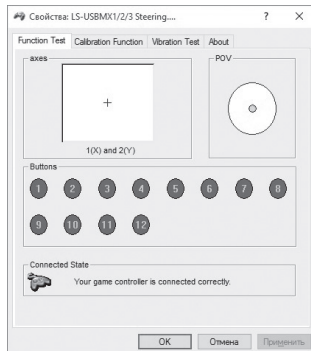

Fig. 9
- To check and configure in DirectInput mode, select Properties in the Game Devices window, and the Properties window: LS-USBMX1 / 2/3 Steering ... pops up. In the «Base Test» tab, you can check the execution of commands when you press the buttons and rotate the rudder, and also check the correct connection of the rudder to the PC in the «Connected State» line (Fig. 9).